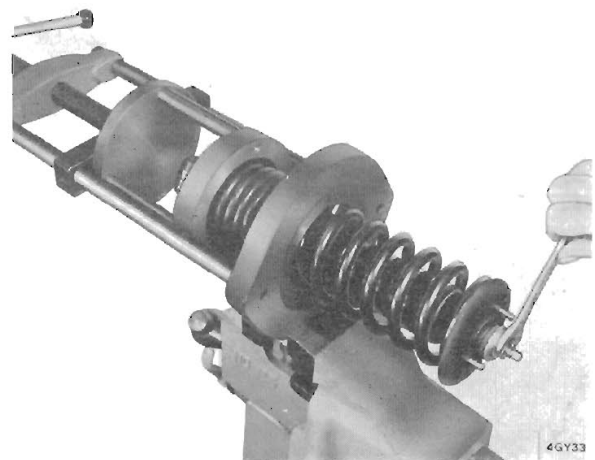

Fig. 29. Using press S.4221A with adaptor S.4221A-5 to compress the front road spring
2. Using a press, compress as many coils of the road spring just sufficient to relieve the load from the damper top nuts, Fig. 29.
3. Remove the locknut (1), nut (2), washer (3) and rubber (5) from the top of the damper.
5. Withdraw the damper (11) from the upper spring pan (7) and road spring (10).
6. Remove the lower spring pan (12) and collets (13) from the damper (Woodhead-Monroe type only).
1. Fit the washer (9) and rubber (8) to the top of the damper (11).
2. Fit the collets (13) and lower spring pan (12) to the damper (Woodhead-Monroe type only).
3. Extend the damper (11) and insert it into the road spring (10) and upper spring pan (7).
4. Using a press, compress the road spring sufficient to enable the completion of the damper attachment to the upper spring pan, Fig. 29.
5. Fit the rubber (5), the washer (3), nut (2) and locknut (1).